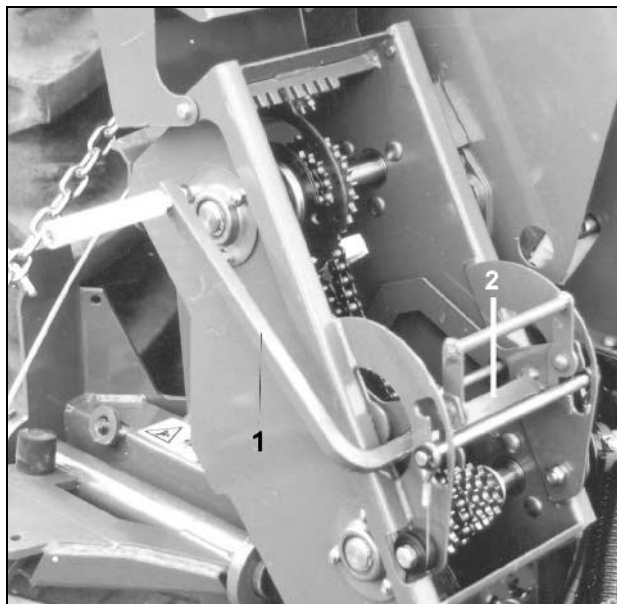

Fig. 108
- Take the calibration crank (Fig. 108/1) and insert into the quadrant tube (Fig. 108/2) .